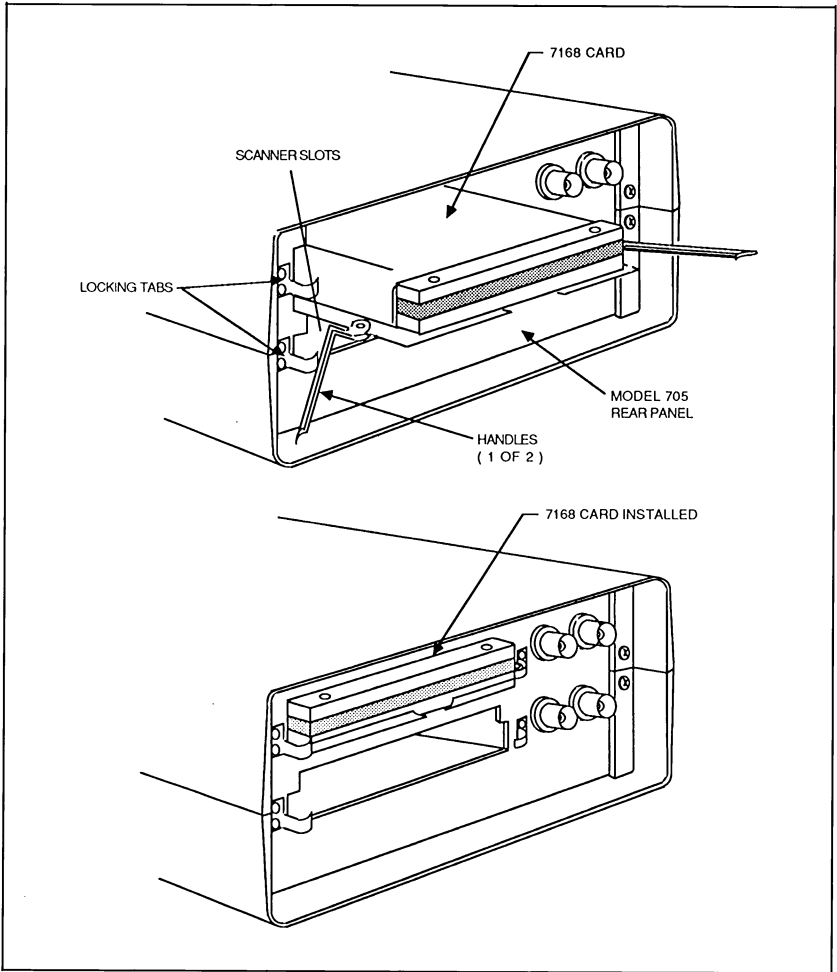

Figure 2-8. Card Installation
Install the card in the Model 705 as follows, using Figure 2-8 as a guide.
3. Once the card is fully seated, lock the card in place by placing the tabs in the locked position, as shown in Figure 2-8.